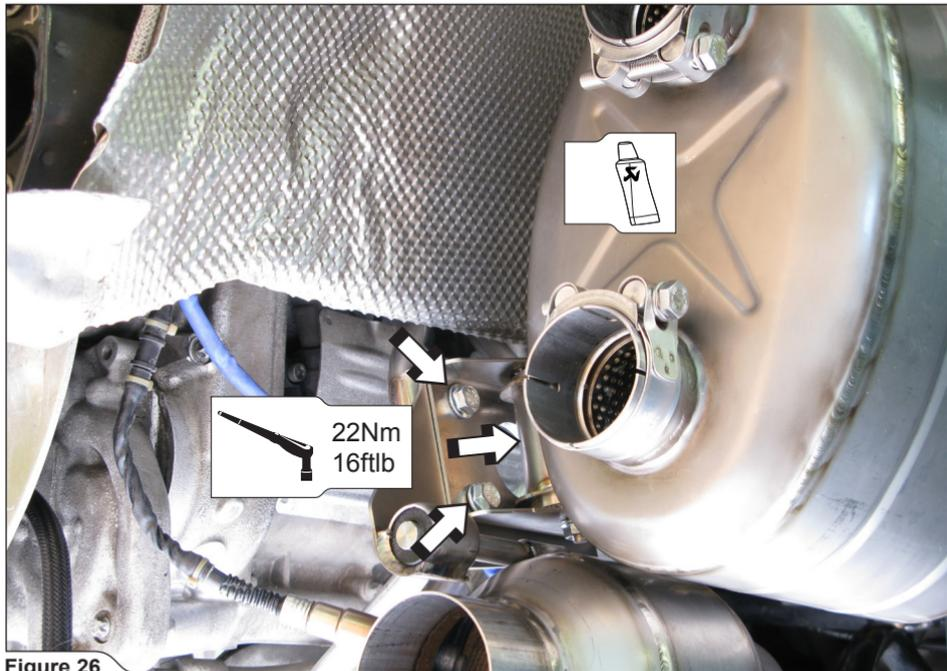

Figure 26
8. **For Evolution and SlipOn-Race:** tighten the side-mufflers on both sides of the vehicle, using Akrapovič M8x16 bolts and M8 nuts (Figure 26).